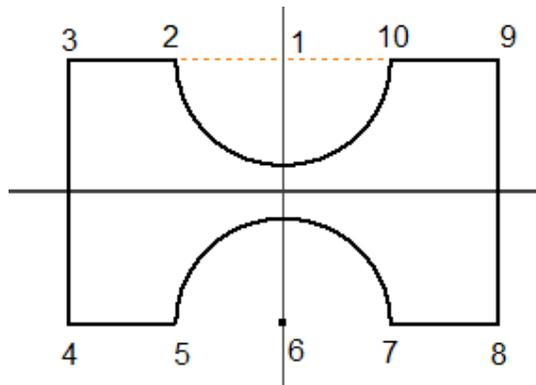

Figure 2-72 Sketch showing different points for Tutorial 3
7. Move the cursor toward left in the graphics window. Enter **12** in the length input field, press the TAB key, and then enter **180** in the angle input field in the Dynamic Input; the line between points 2 and 3 is created. Refer to Figure 2-72 for point numbers.
12. Move the cursor downward, you will notice a point where both the vertical and horizontal imaginary lines intersect each other, see Figure 2-72. This point is the endpoint of the lower arc. The cursor automatically snaps to that point. Do not release the left mouse button until the entire process is completed.
1. In Figure 2-72, the major and minor grid lines, and the triad have not been displayed for a better display of the sketch and the imaginary lines.